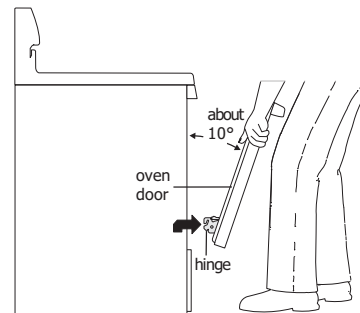

Figure 23: How to remove door
3. Firmly grasp both sides of oven door along the door sides (Do not use the oven door handle - Figure 23).
1. Firmly grasp both sides of oven door along the door sides (Do not use the oven door handle - Figure 23).